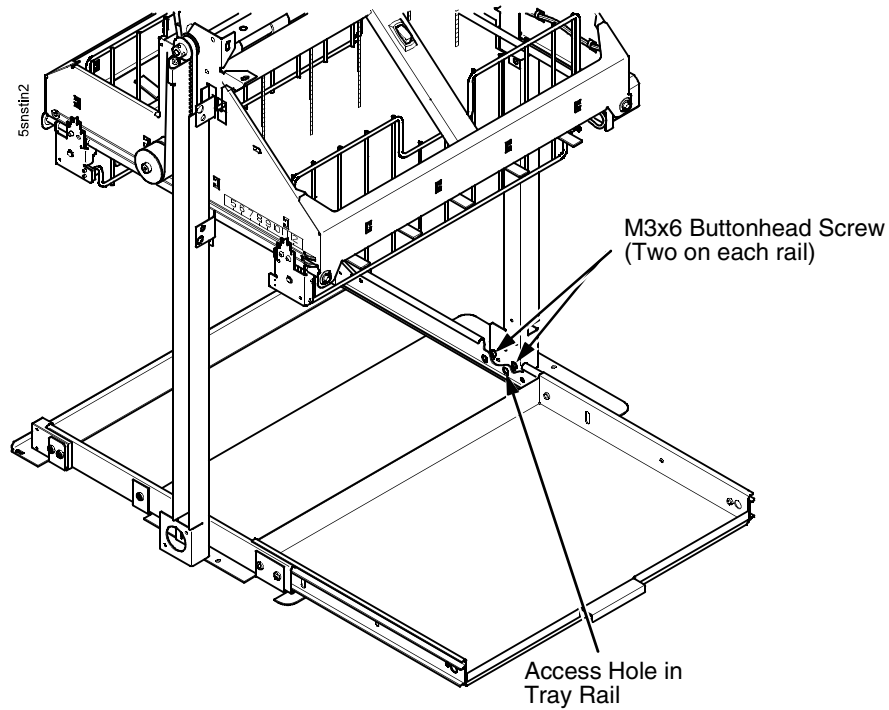

Figure 83. The Lower Screws in the Vertical Rails
10. Pull the paper tray out until the holes in the rails permit access to the M3 buttonhead screws. (Figure 83.)
11. Loosen one turn—do not remove—the M3 screws securing the vertical rails to the stacker base. Each rail is secured by two screws. (Figure 83.)
30. Pull the paper tray out until the holes in the rails permit access to the M3x6 screws. Tighten the M3 screws securing the vertical rails to the stacker base. Each rail is secured by two screws. (Figure 83.)